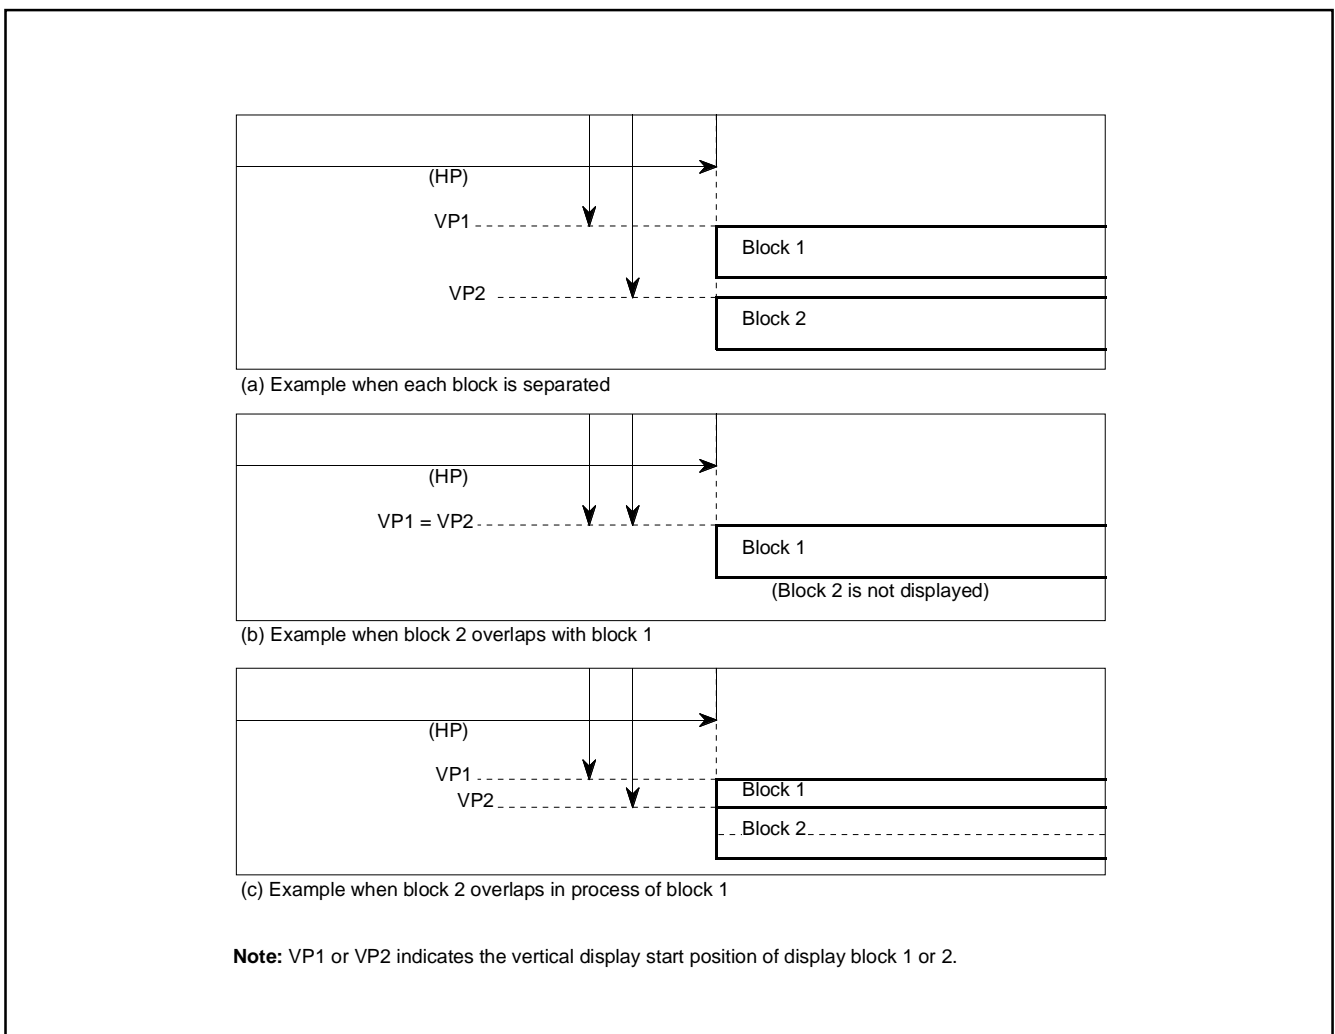

Fig. 8.10.6 Display Position
- When the display position of block 1 is overlapped with that of block 2 (Figure 8.10.6 (b)), the block 1 is displayed on the front.
- When another block display position appears while one block is displayed (Figure 8.10.6 (c)), the block with a larger set value as the vertical display start position is displayed.